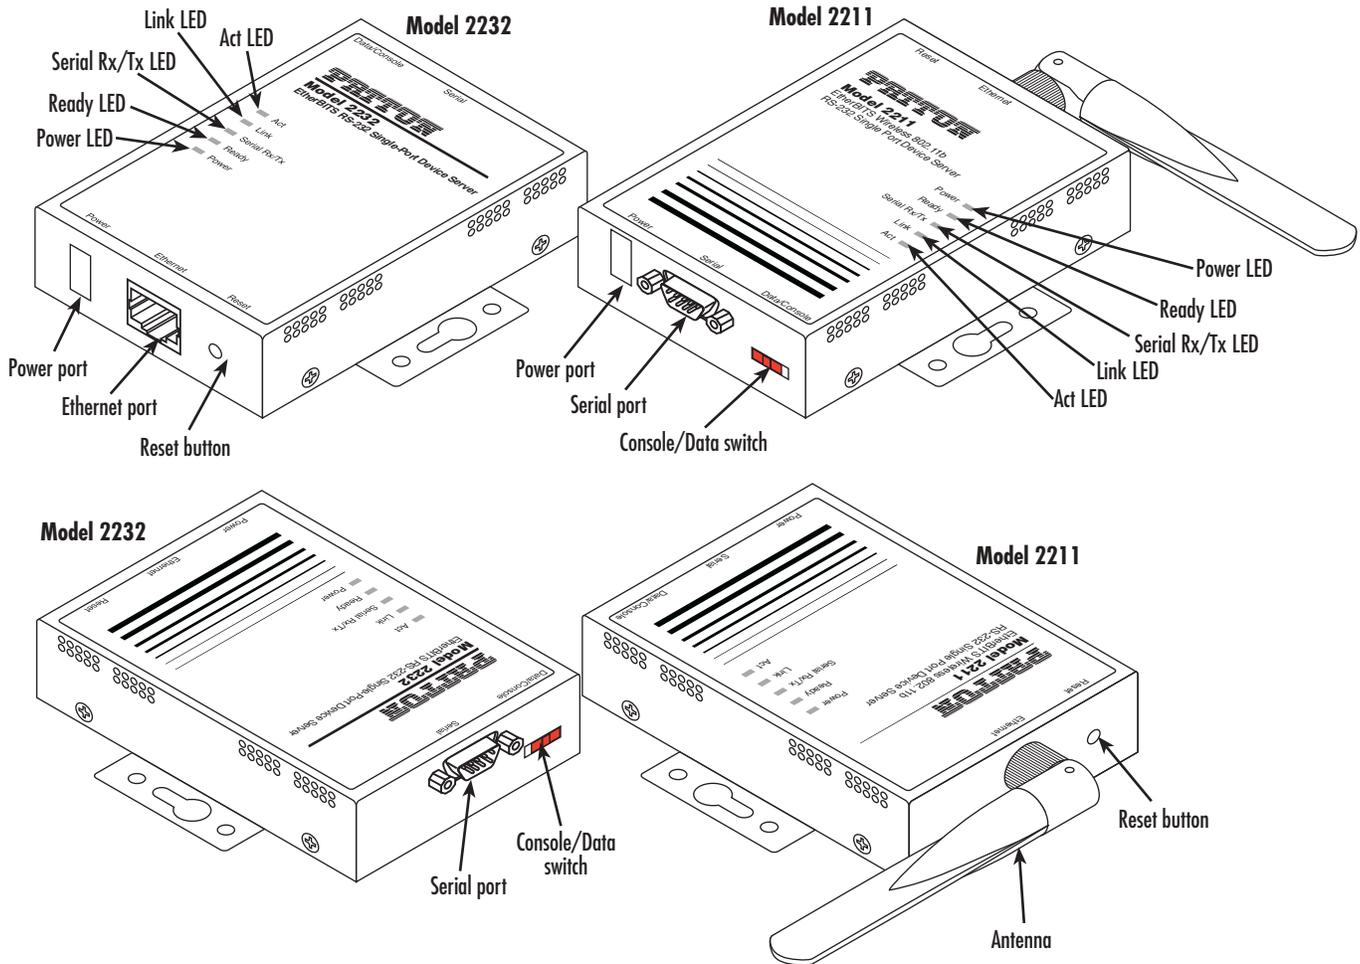

Figure 3. Device server LEDs, switches, and ports
The device server has five LEDs that display the current system status (see figure 3). The serial port status LEDs are described in table 2.
The *Console/Data* switch (see figure 3 on page 19) enables a user to set the serial port for console or data mode. (Refer to section “Accessing the Console Port” on page 22 for more information on serial console access)
1. Plug the DC power supply cable connector into the device server’s *Power* port (see figure 3 on page 19).
Connect the one end of the Ethernet cable to the Model 2232 10Base-T *Ethernet* port (see figure 3 on page 19) and the other to the Ethernet network. If the cable is properly connected, the Model 2232 will indicate a valid connection to the Ethernet network as follows:
Connect the serial cable to the device server *Serial* port (see figure 3 on page 19). To connect to the serial port of the device, the user needs to consider the type of console port provided by the device itself. Refer to appendix C, “Cable Recommendations” on page 64 for details.
Note If the configuration of the device server through the serial console is required, connect the serial cable to the serial port of user’s computer first. And push the *Console/Data* switch (see figure 3 on page 19) to the *Console* side.
1. Connect one end of the console cable to the *Serial* port on the device server (see figure 3 on page 19).